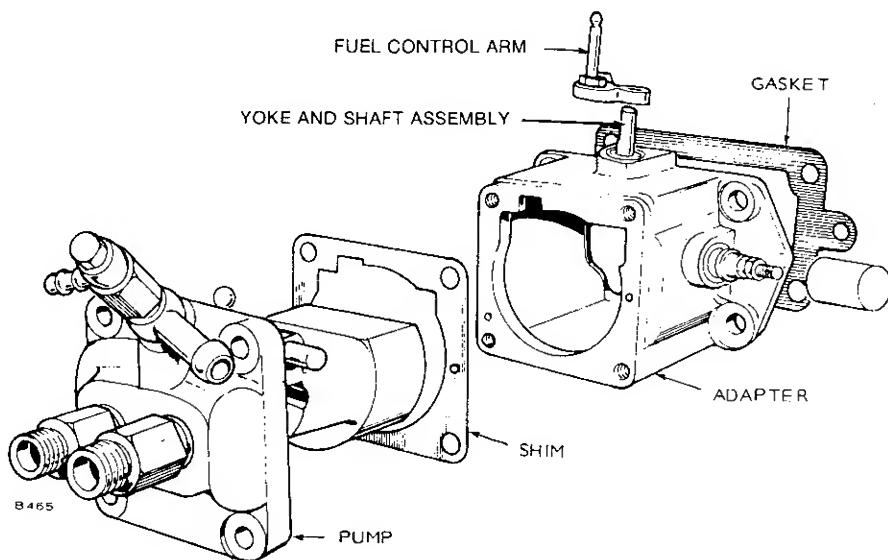

FIGURE 3-50. PUMP AND ADAPTER ASSEMBLY
2. Using proper shim thickness (Figure 3-50), install pump to adapter with four socket head capscrews and lockwashers. Torque to 20 to 24 ft-lbs 27-33 N·m).
5. Reinstall fuel control arm on yoke and shaft assembly, Figure 3-50. Tighten socket head screw, but do not over tighten.